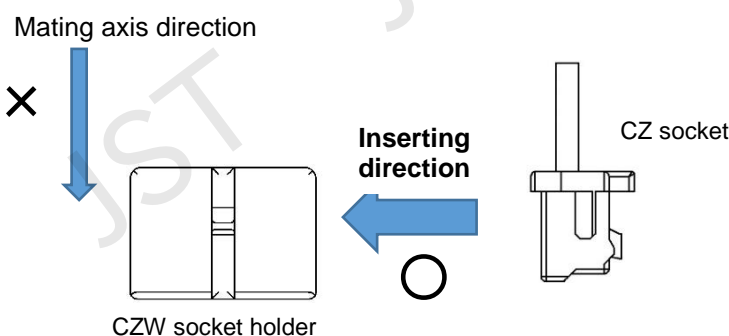

Fig.24 (Method of inserting the socket into holder)
- ① Prepare the CZ connector socket which wires have been properly terminated. (8 to 20 circuits)
- ② Prepare the CZW connector socket holder (twice the number of circuits) compatible with CZ connector socket. (16 - 40 circuits)
- ③ Insert CZ connector socket into CZW connector holder from the termination side of the socket as shown in Fig.24. (Insert in a direction perpendicular to the mating axis with the header.)
- (d) In case of reverse insertion (with turning wire terminated part of both the socket and the holder outside), re-insert the socket in the proper direction (refer to Fig.24 and Fig.26).